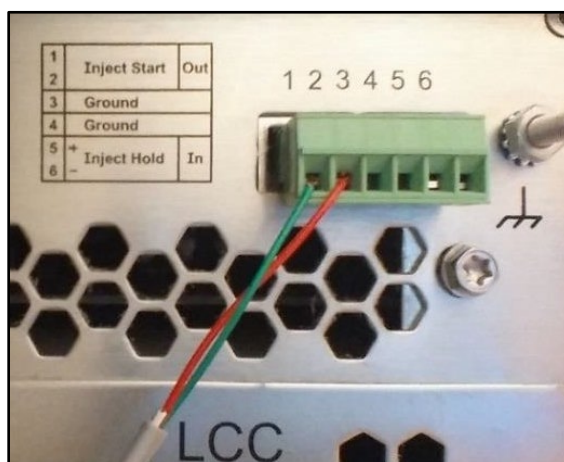

Figure 5: Inject Start Out port of an ACQUITY UPLC autosampler back panel with the green and red wires of a RJ-12 cable connected to ports 1 and 2.
- Remove the green screw terminal connector on the rear panel of the ACQUITY UPLC autosampler (Figure 5).
- Connect the green and red wires to screw terminals 1 and 2 of the I/O signals connector on the back panel of the ACQUITY UPLC autosampler (Figure 5) using a flat head screwdriver. Make sure the wires are secure and contact with the connector is achieved.